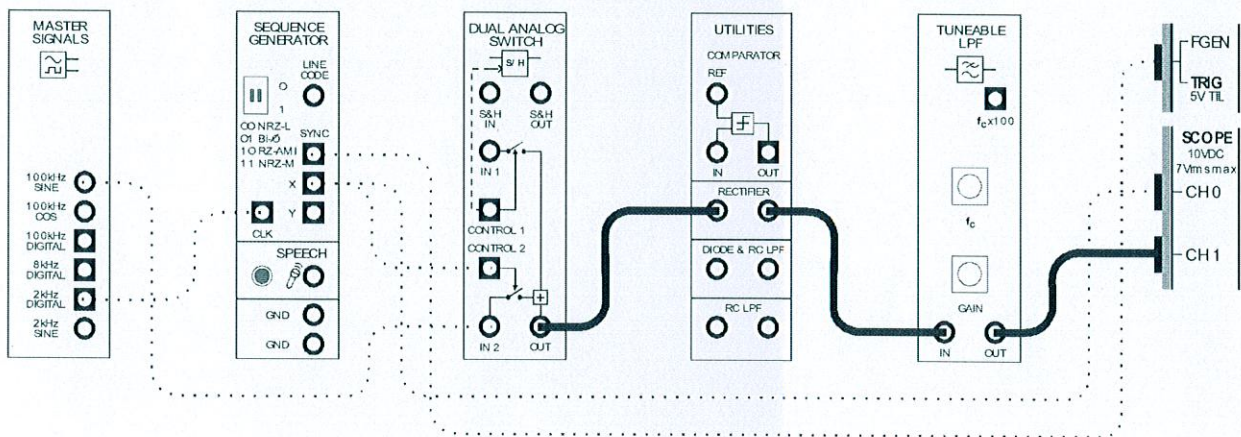

Figure 6
18. Modify the set-up as shown in Figure 6 below.